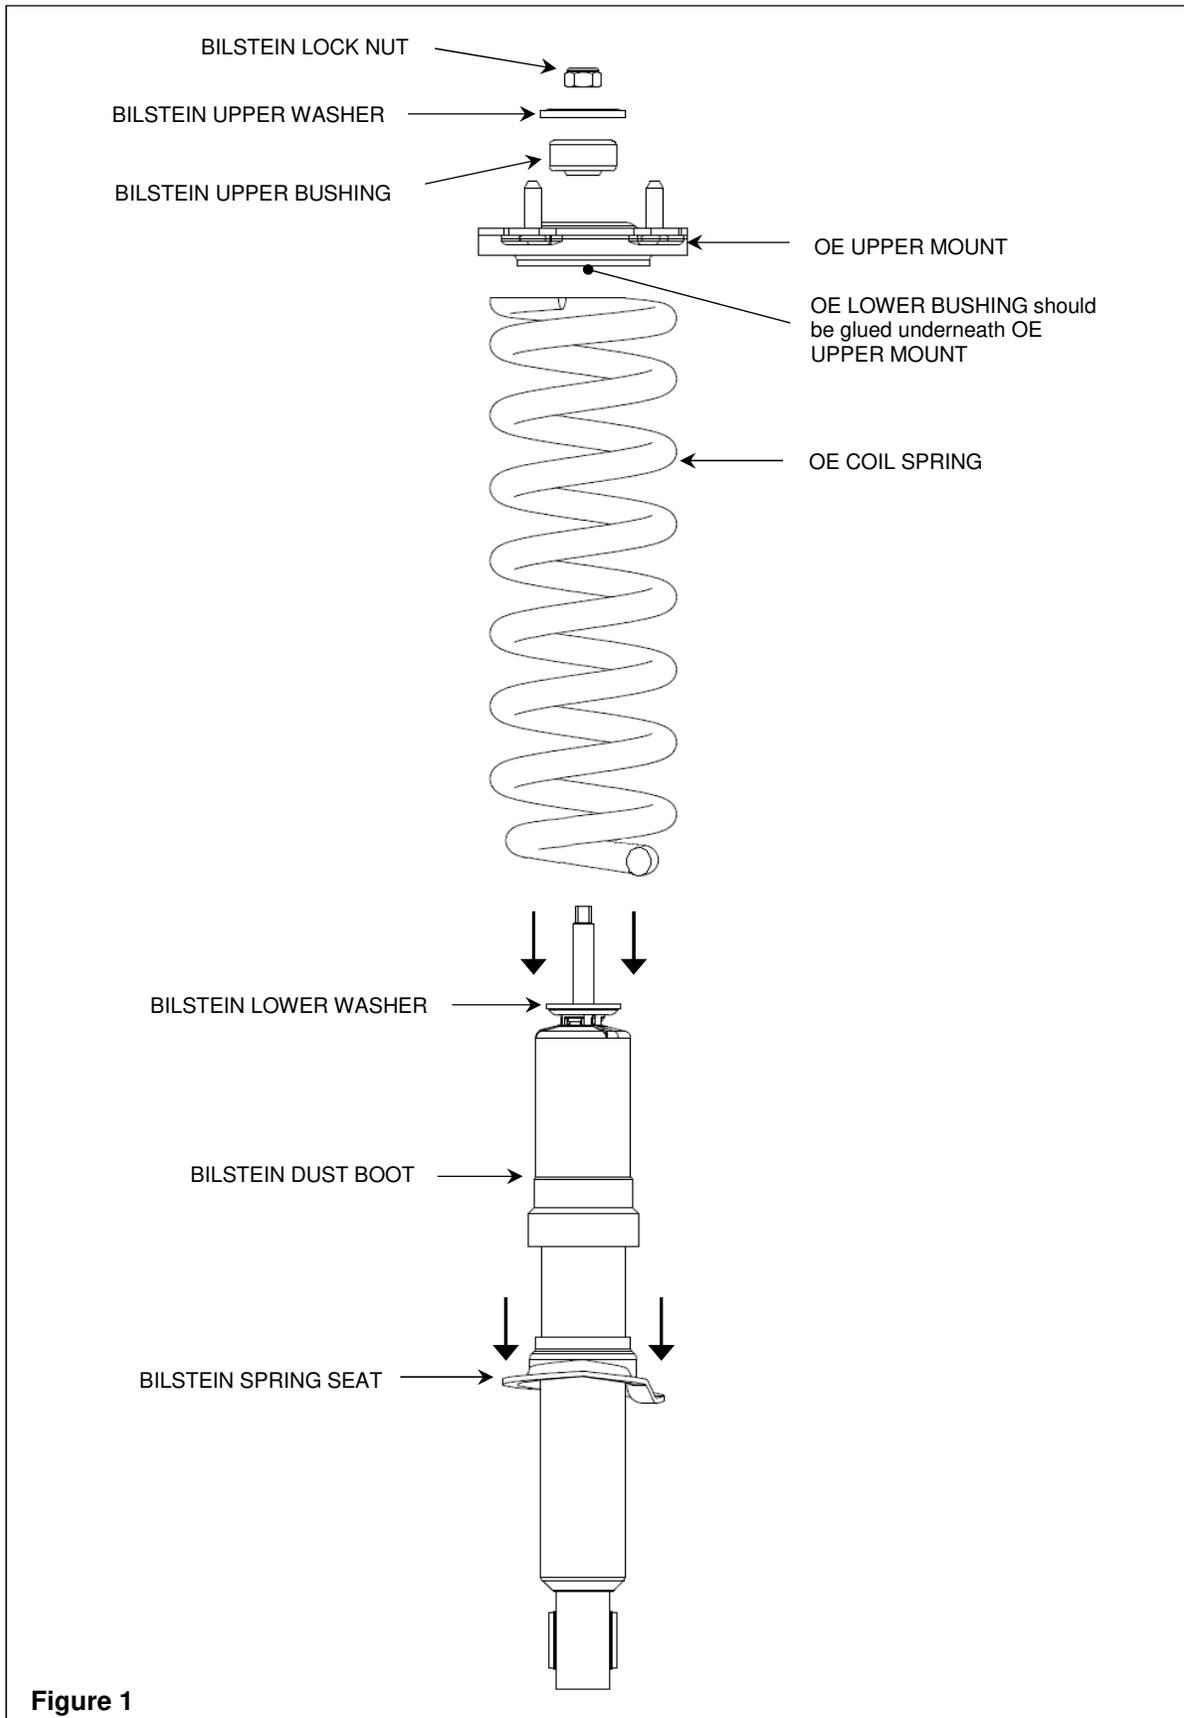

Figure 1
- D. Install the supplied lower washer (concave side up) onto the stem of the rod as shown. Ensure that the lower washer is oriented correctly (see Figure 1).
- E. Using an appropriate spring compressor, compress the OE spring and assemble it with the new Bilstein shock. Align the bottom coil of the spring with the ramp on the spring seat. Refer to Figure 1 for the order of the remaining components.
- G. Install one of the supplied upper bushings and the supplied upper washer (concave side down) as shown. Ensure they are oriented correctly (see Figure 1). The other supplied bushing can be discarded.